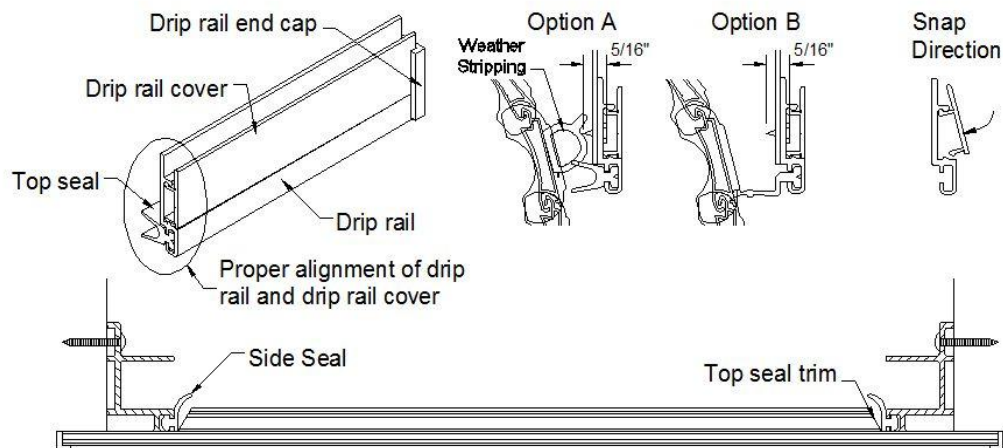

Fig. 11
- a) Clean the appropriate slat with a 50/50 isopropyl alcohol and water mixture. Let Dry. Attach bulb seal (weather-stripping) to door with the 'fin' of the extrusion on top so that when door is closed it will create a seal between header and slat assembly (see figure 11 option A).
- Center the drip rail/top seal in the compartment opening flush against the header. The ends should be even with the outer finishing flange on the track (Fig. 11).